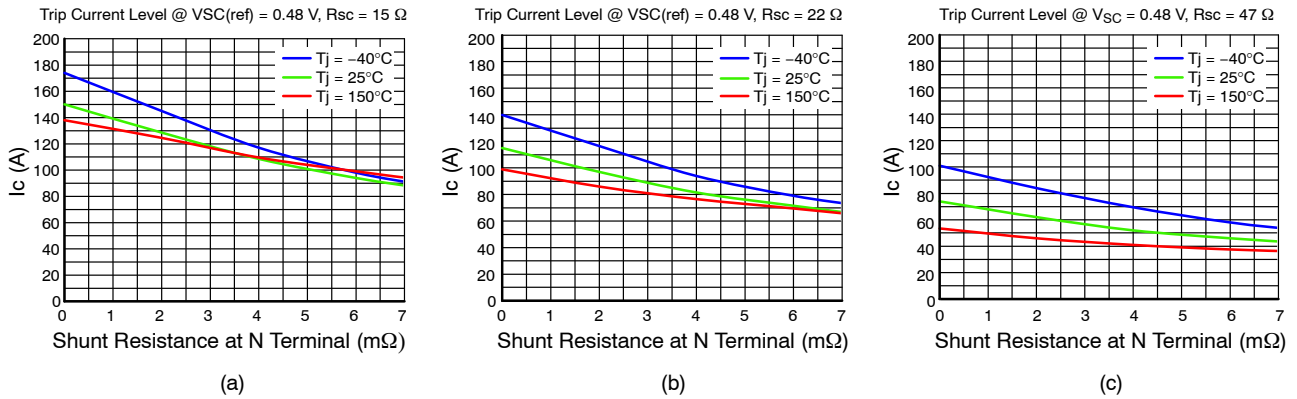

Figure 17. Trip Current Level vs. Shunt Resistor of NFAL7565L4B(T)
For current sensing, apply an external shunt resistor at each N terminal. Sensing voltage from RSC pin is influenced by an external shunt resistor, as shown in Figure 17.
Figure 17 shows RSC value of NFAL7565L4B(T) under one-shunt resistor condition. For adequate RSC value in a three-shunt structure, the RSC value needs to be considered by the N-terminal shunt resistor value and target protection current level.